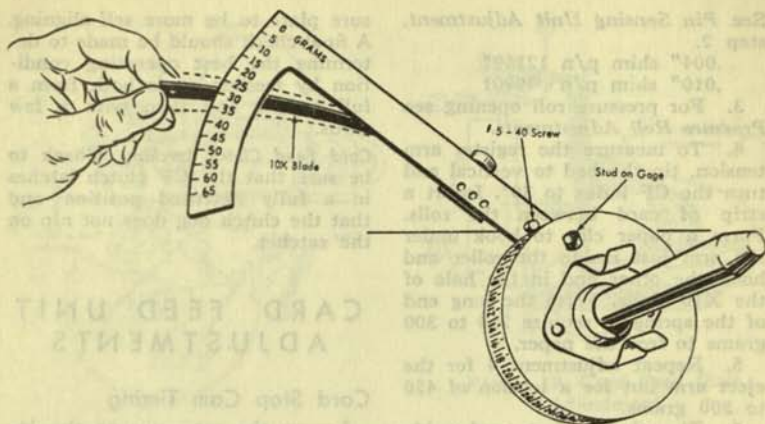

Figure 15. Friction Drive Adjustment
4. Adjust the lower bumper (Figure 15, step 4) to deaden the stacker noise. It must permit the traveling card guide to drop below the outer circumference of the two stacker drums.
2. Install a 5-40 screw from the opposite side of the gage which will extend 1/2" on the same side as the stud (Figure 15).
3. With the gage in position as in Figure 15, hold the gage firmly while operating the space bar. When it is determined that the torque is not excessive for the gage range, increase the pressure on the blade until spacing stops. Read the gage. Adjust the spider spring for a reading 250 to 375 grams, resulting in 4 to 6 inch pounds torque. Avoid passing column 87 because the program cam contact levers will drop off the program cam and prevent back spacing.